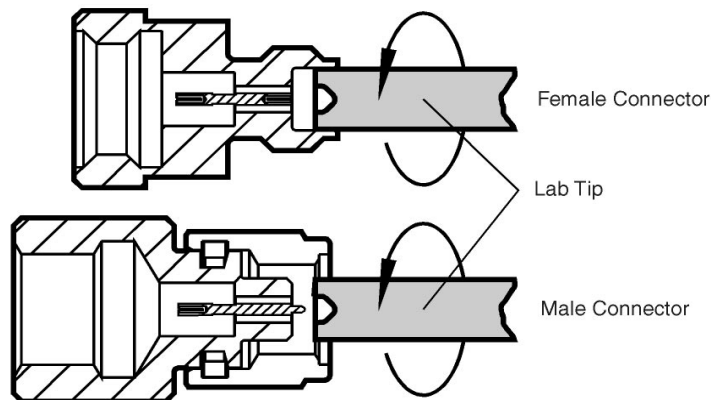

Figure 4-7 Cleaning Illustration
4. Gently wipe connecting surfaces with the end of the cleaning swab (refer to Figure 4-7).